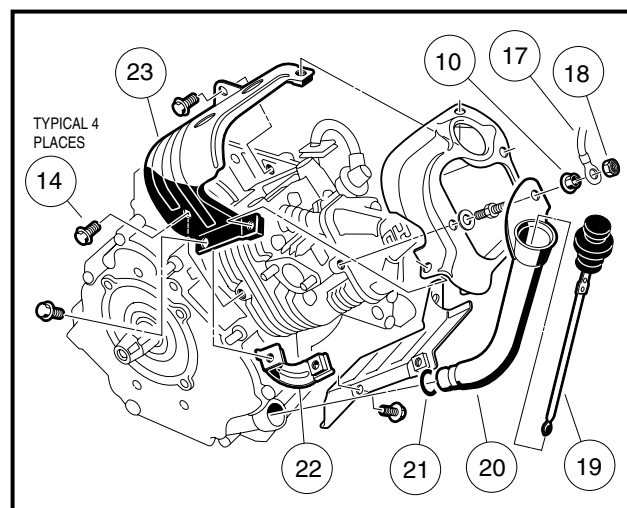
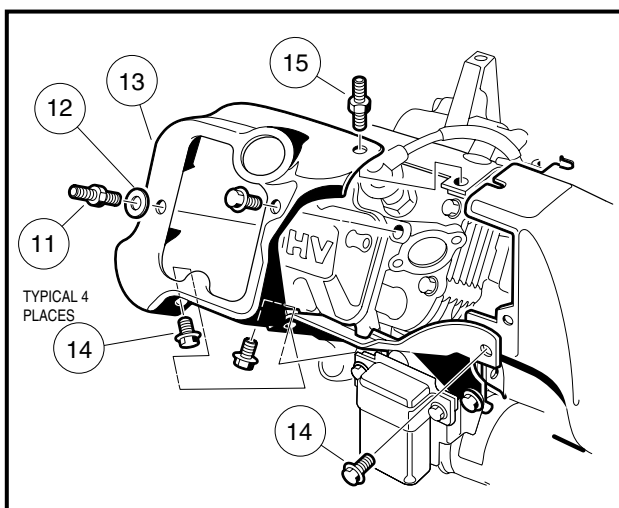

Figure 2-3 Upper Shroud and Oil Filter Removal
Figure 2-4 Head Shroud Removal
7. Disconnect oil filler tube (20) from cylinder shroud by first removing the locknut (18), ground wire (17) and flange nut (10) (**Figure 2-3, Page 2-6**). See following **NOTE**.
8. Remove the eight bolts (14) and the two-ended bolts (11 and 15) (**Figure 2-3, Page 2-6 and Figure 2-4, Page 2-6**).
9. Take off the head shroud (13), the upper shroud (23) and the bracket (22) (**Figure 2-3, Page 2-6 and Figure 2-4, Page 2-6**).